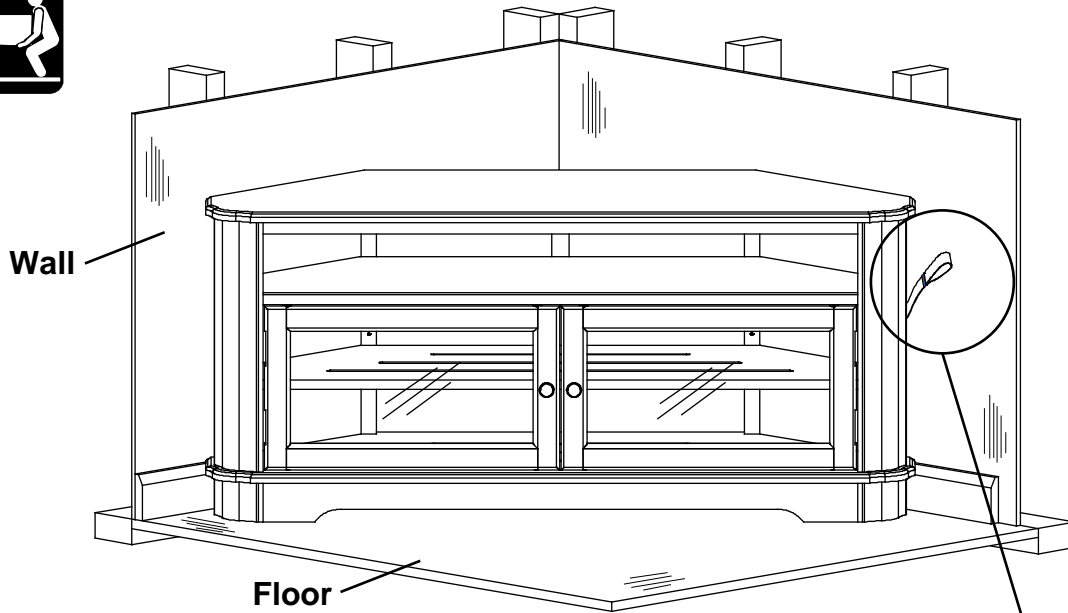

Fig. 6
6. Move the item back into position against the wall and reach behind the piece of furniture to grasp the loop in the free end of the strap. Pull the free end of the strap until portion between the Cam Buckle (A) and the back apron of the item is tight. See Figures 6 and 6a. If you need to move the piece of furniture reach behind and locate the buckle which connects the two sections of the strap and depress the release lever, then pull on the section of strap that is between the buckle and the back apron of the furniture until there is enough slack to allow you to pull the item away from the wall.